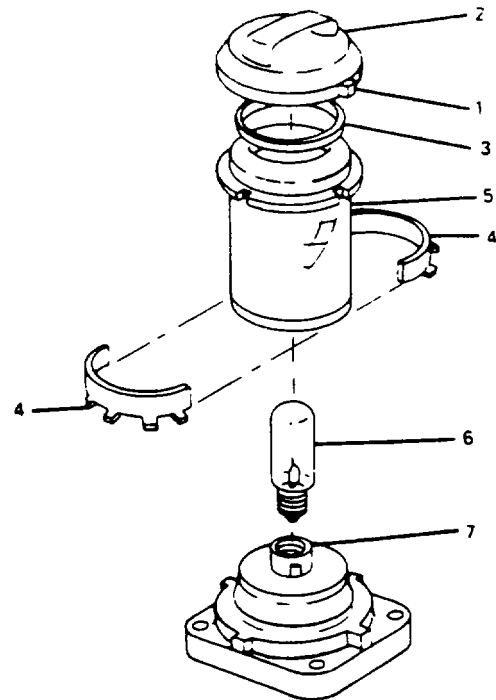

Figure 2-61. Repair Navigation Light (Single Lens).
- a. Loosen setscrew (1, Figure 2-61) and remove lid (2) and gasket (3).
- b. Unscrew and remove clamp (4).
- c. Remove lens (5).
- d. Unscrew and remove bulb (6) from socket (7).